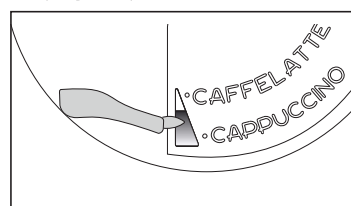

Fig. 41
- ▶ Position the frothed milk regulator (C1) between the words CAPPUCCINO and CAFFELATTE printed on the milk container lid. The quantity of froth can be adjusted by moving the regulator towards the word CAFFELATTE for a denser froth. Moving it towards the word CAPPUCCINO obtains a less dense froth (Fig. 41).